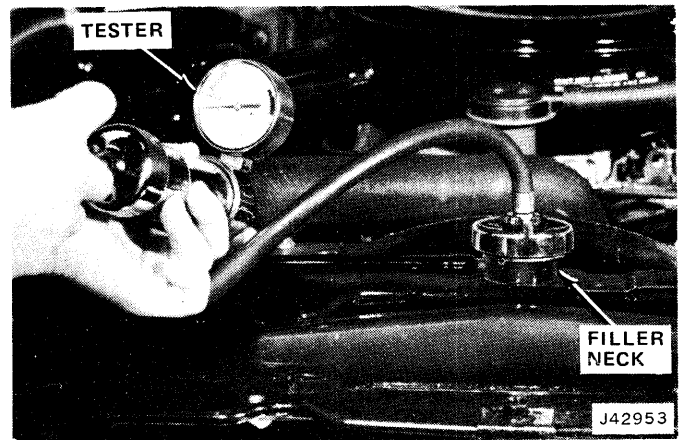

Fig. 2-9 Cooling System Pressure Test
(1) Carefully remove radiator pressure cap from filler neck and check coolant level.
(2) Wipe inside of filler neck and examine lower inside sealing seat for nicks, dirt, and solder bumps.
(3) Inspect overflow tube for dents or internal obstruction. Run a wire through tube to be sure it is clear.
(4) Inspect cams on outside of filler neck. If cams are bent, seating of pressure cap valve and tester seal will be affected. Bent cams can be reformed if done carefully.
(5) Attach pressure tester to filler neck (fig. 2-9). **DO NOT FORCE.**
(6) Operate tester pump to apply 15 psi pressure to system. If hoses swell excessively while testing, replace as necessary.
(7) Observe needle: